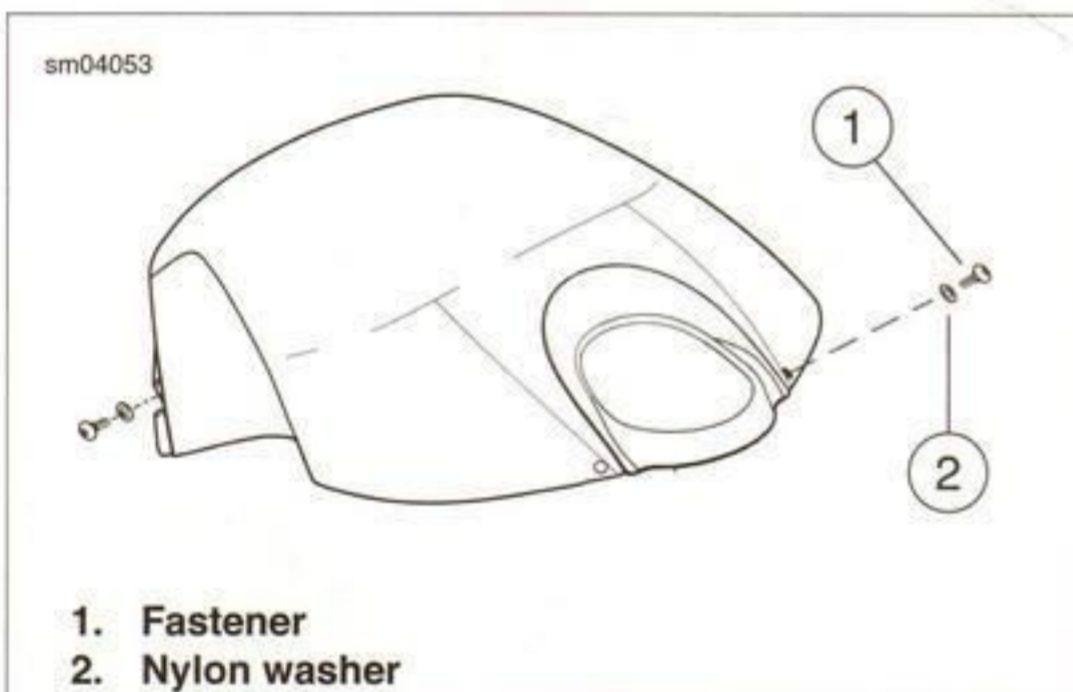

Figure 1-6. Intake Cover
2. See Figure 1-6. Remove the rear fasteners (1) and nylon washers (2).